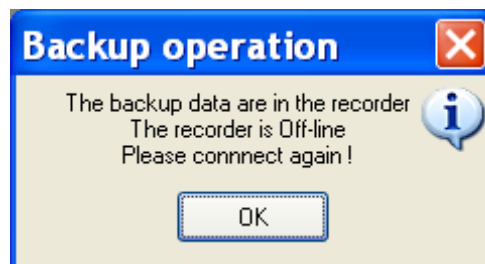

Figure A.8 Backup Operation
6. The SeaStar software downloads the RBD file into the recorder and the window in figure A.8 appears. Click OK.